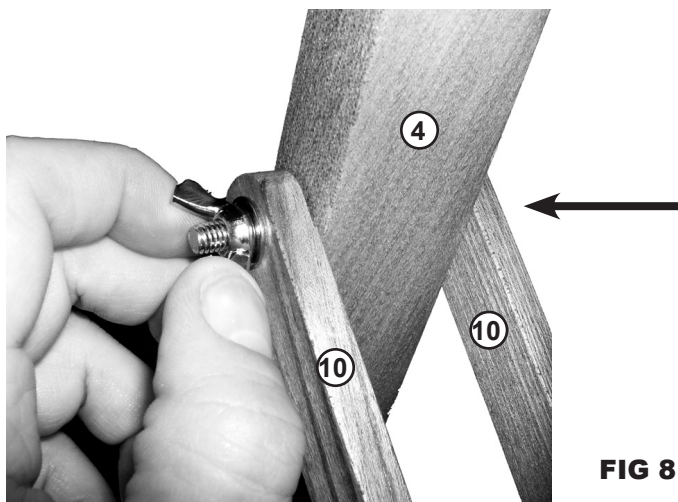

FIG 8
STEP 8. Attach Wood Tilt brackets (10) to rear leg and Ratchet Center column (4) using one bolt, washer and wing nut (D). Insert the first bolt through the one wood bracket then through the side edge hole of the Ratchet Center Column then continue going through the other side hole and into the second wood tilt bracket. Secure with washer and the wing-nut. See FIG 8.